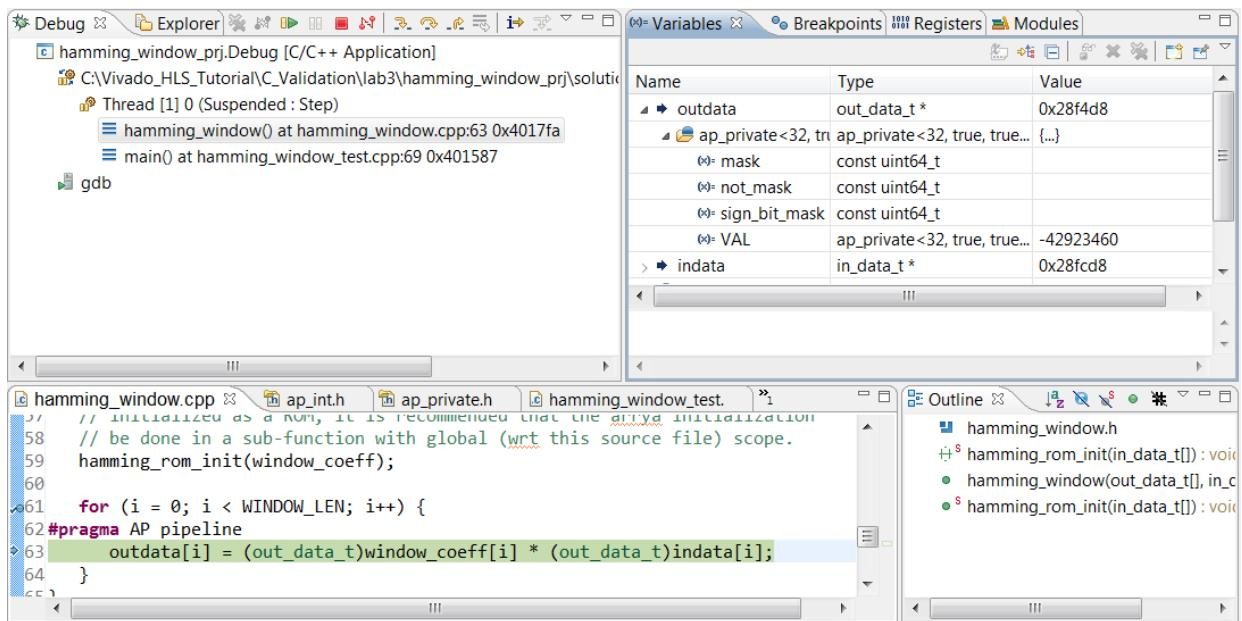

Figure 3-21: Arbitrary Precision Variables
10. Expand the `outdata` variable, as shown in Figure 3-21 to see the value of the variable shown in the `VAL` parameter.